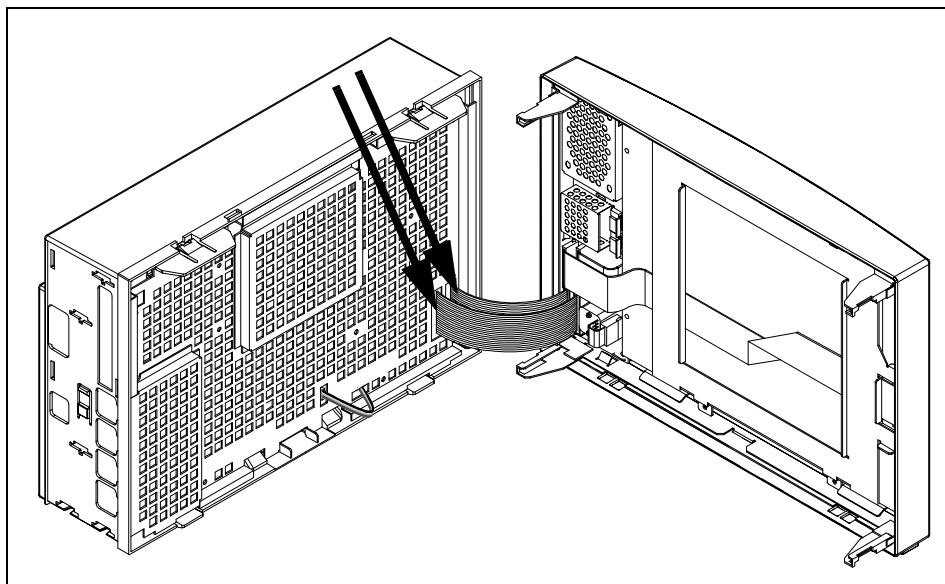

Fig. 3-7 Opening Monitor
- 6) Pull front panel subassembly straight out from rear housing to separate the two subassemblies about 2" (5cm), and then swing front panel subassembly away from rear housing carefully, as illustrated in Fig. 3-7.
- 7) Unplug two ribbon cables interfacing rear housing and front panel subassembly, at lower left hand corner of rear housing subassembly, as indicated by arrows in Fig. 3-7, to completely separate subassemblies.
- 1) Refer to Fig. 3-7. With rear housing and front panel subassemblies in upright position, rear housing subassembly on left and internal circuits facing you, plug in two ribbon cables at lower right hand corner of rear housing and left hand corner of front panel subassembly.